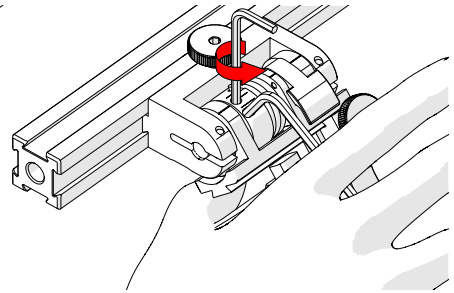

Fig. 160 - Press 3 mm hex wrench down
5. Lightly press the long arm of the 3 mm hex wrench down. Using the 2 mm hex wrench, loosen the force adjustment screw but do not remove it (Fig. 160).